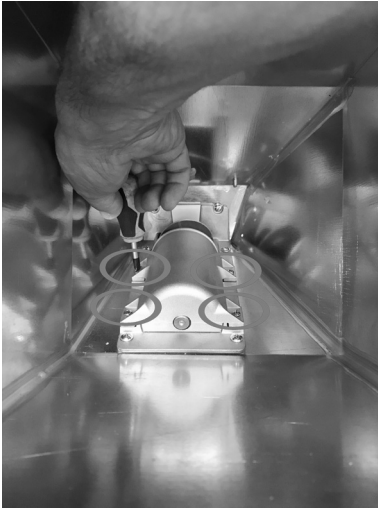

Fig. 36 - Screw removal
- Enter the tank and loosen the 4 screws of the feed screw coque (see **Fig. 36**).